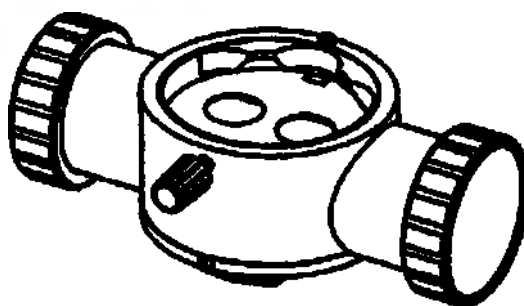

Fig. 22
13.1 Double beam splitter. (fig. 22)